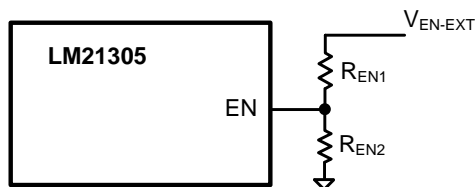

Figure 22. Use an External Resistor Divider to Set the EN Threshold
The enable (EN) pin allows the output of the device to be enabled or disabled with an external control signal. This pin is a precision analog input that enables the device when the voltage exceeds 1.2 V (typical). The EN pin has 200 mV (typical) of hysteresis and disables the output when the enable voltage falls below 1.0 V (typical). If the EN pin is not used, pull this pin up to AVIN via a 10-kΩ to 100-kΩ resistor. Given that EN has a precise turn-on threshold, use an external resistor divider network from an external voltage to configure the device to turn on at a precise voltage. The precision enable circuit remains active even when the device is disabled. From Figure 22, calculate the turn-on voltage with a divider using Equation 2: